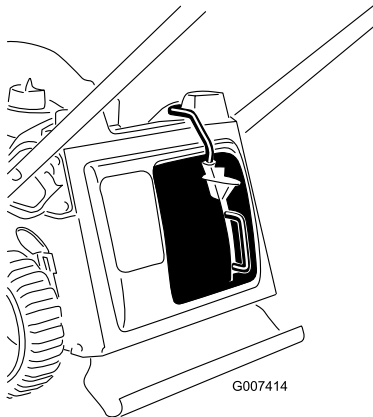

Figure 10
3. Release the button on the lever and ensure that the top of the lever lies fully in the switch channel (Figure 10). **If the top of the lever is not in the switch channel, your mower will not start!**